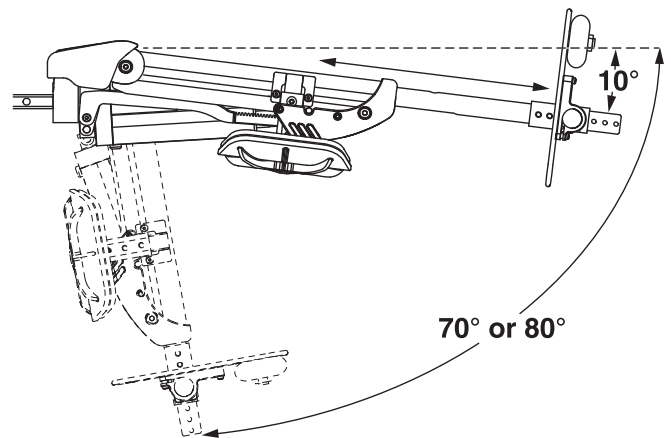
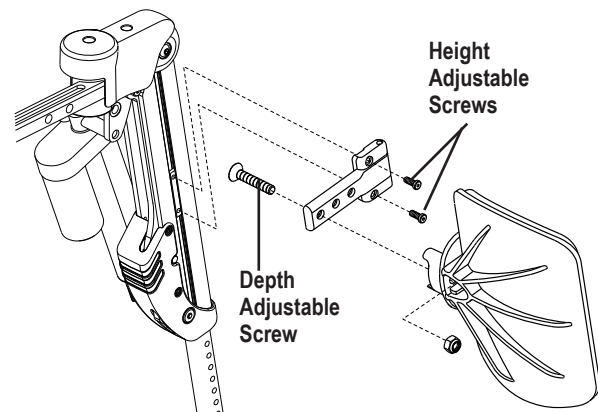
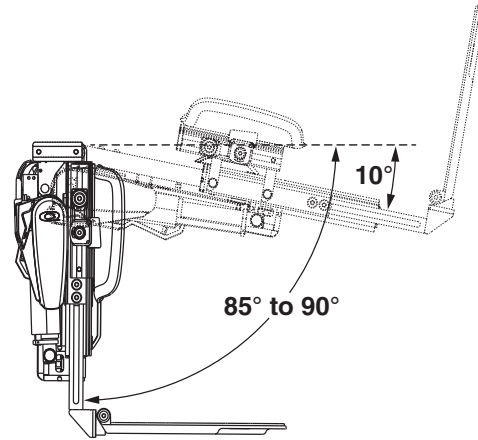
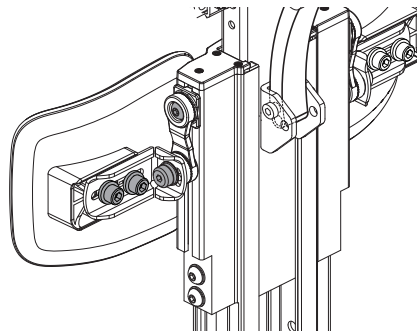

Figure 14. Power Articulating Leg Rests
Figure 16. Swing-away Calf Pad Adjustment (ALR Shown)
Figure 17. Articulating Foot Platform
Figure 19. Center Mount Calf Pad Adjustment
The power articulating leg rests maintain the correct knee-to-heel measurements when the user's legs are being elevated and can be adjusted either as a pair or individually. **See figure 14.** The power articulating leg rests provide 70° or 80° of movement, have standard swing-away/height and depth adjustable calf pads (**see figure 16**), accept all foot plates, and have a maximum user weight capacity of 300 lbs. (136 kg). They are available with all power bases that support upgraded electronics and with the Synergy Seating System. The power articulating leg rests operate through the power chair controller or toggle switch.
1. Remove the height adjustment screws. **See figure 16.**
1. Remove the depth adjustment screw. **See figure 16.**
The center-mount articulating foot platform maintains the correct knee-to-heel measurements when the user's legs are being elevated. **See figure 17.** The center-mount articulating foot platform elevates to 10°, has standard calf pads that are depth and height adjustable (**see figure 19**), dependent upon seating system has a maximum user weight capacity of 450 lbs. (204 kg), and has an operating temperature of 40°F (4°C) to 105°F (40°C). It is available with all TRU-Balance Power Positioning Systems and with the Synergy Seating System. The articulating foot platform operates through the power chair controller or toggle switch.
The single actuator articulating foot platform maintains the correct knee-to-heel measurements when the user's legs are being elevated. **See figure 17.** The single actuator articulating foot platform elevates to 13°, has standard calf pads that are depth and height adjustable (**see figure 16**), has a maximum user weight capacity of 300 lbs. (136 kg), and has an operating temperature of 40°F (4°C) to 105°F (40°C). The articulating foot platform operates through the power chair controller or toggle switch.